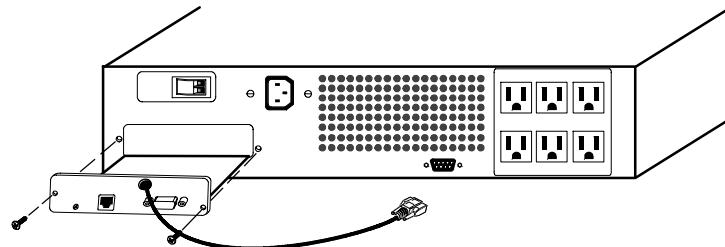

Figure 4. Installing the ConnectUPS-M Module
Slide the ConnectUPS-M Module into the open slot and secure with the screws removed in Step 1 (see Figure 4).
3. Connect the module cable to the UPS communication port (see Figure 4).